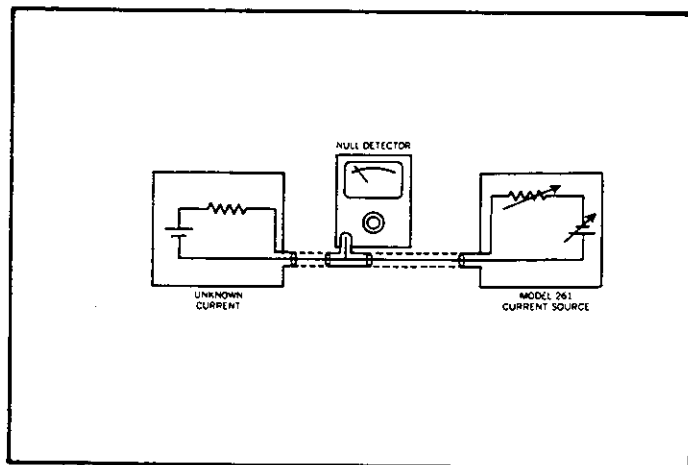

FIGURE 7. Galvanometric Measurements.
c. Galvanometric Current Measurements. In this method the 610C is used as a null detector. The 610C should be used in conjunction with an accurate current source such as the Keithley Model 261 as shown in Figure 7.